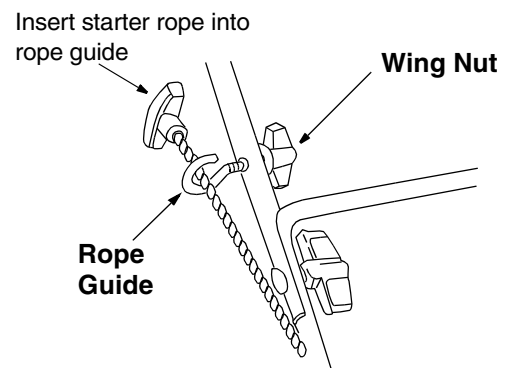

Figure 4
- The rope guide is attached to the right side of the upper handle. Loosen the wing nut which secures the rope guide. For location of the wing nut, see Figure 4.
- With the spark plug wire disconnected and grounded, hold the blade control handle against the upper handle, and pull the starter rope out of the engine. Release the blade control handle. Slip the starter rope into the rope guide. Tighten the wing nut. See Figure 4.